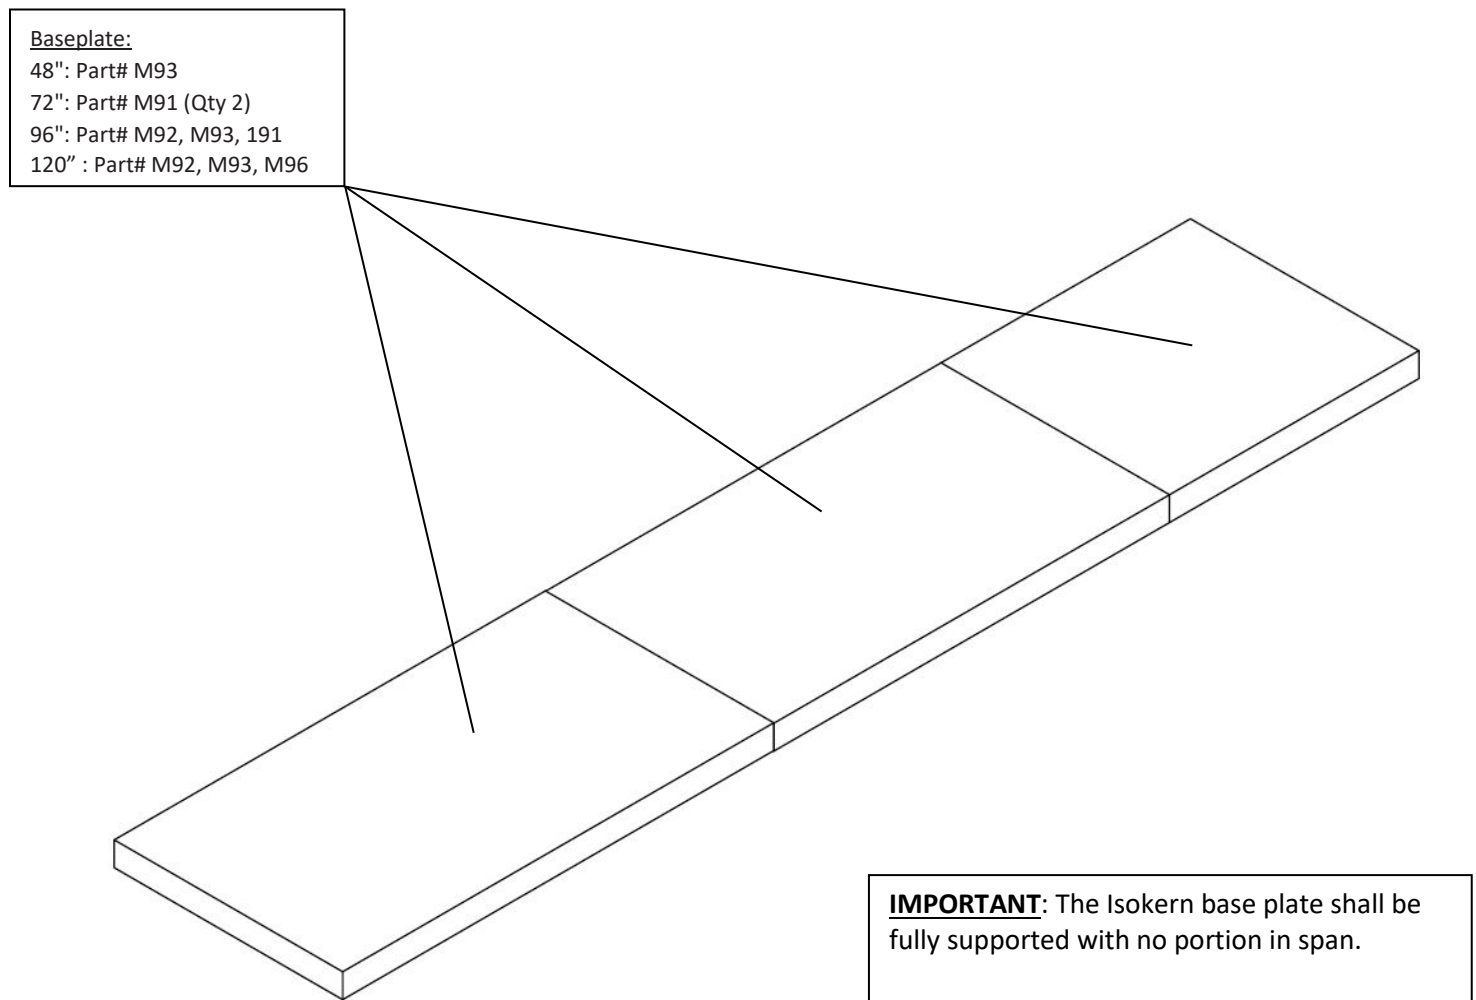

FIGURE 9
The following chart of dimensions detail the positioning of a LINEAR Series fireplace in a corner (**Figure 9**).
- 1) Apply Earthcore Adhesive to the joints between each baseplate part and ensure to set each base plate in a full bed of Earthcore Adhesive on a level support surface (**Figure 9**). See page 15 for information regarding the supporting floor system. Do not set the base plate so that it is in span. Refer to pages 6-13 for part and assembled firebox dimensions.